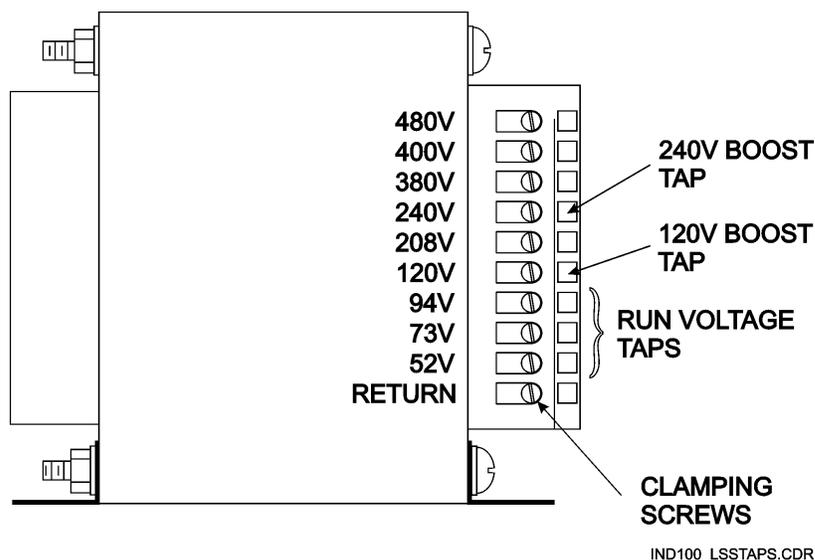

Figure 2-12: Low speed run-voltage tap selection
1. Note the required RUN VOLTAGE for the selected tube type per table 1 in supplement 746026, which follows chapter 2. Then confirm the low speed starter run-voltage in the generator. This is determined by the run-voltage setting on the power supply auxiliary transformer. Refer to figure 2-12.
THE EXAMPLE DIP SWITCH SHOWN IN FIGURE 2-12 IS REPRESENTATIVE OF ONE STYLE OF SWITCH ONLY. DEPENDING ON MANUFACTURER, YOUR DIP SWITCH STYLE MAY VARY. PLEASE NOTE THE ON/OFF POSITIONS CAREFULLY FOR YOUR UNIT.